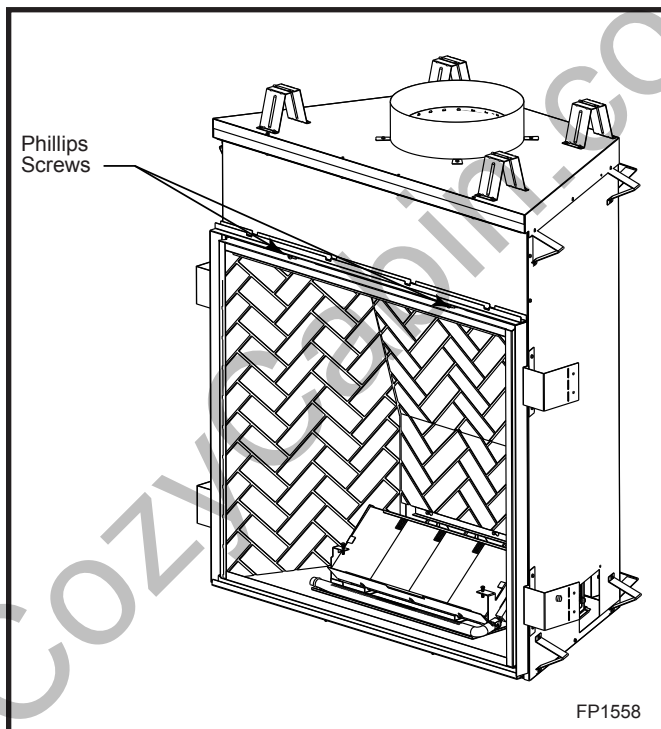

Fig. 34 Remove Phillips screws, tilt frame forward and lift off bottom door track.
3. Using a Phillips screwdriver, unfasten two (2) screws located at the top of the glass frame. (Fig. 34)